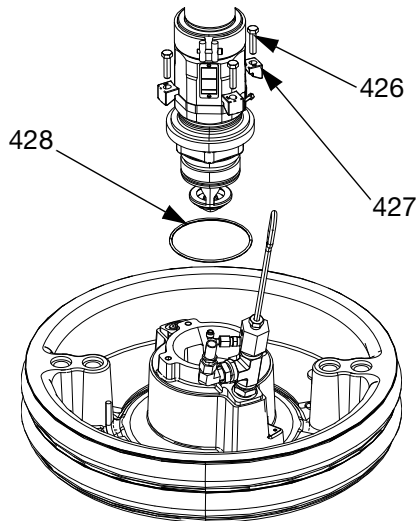

FIG. 36: 55 Gallon Mounting Kit
1. Place o-ring (428) from mounting kit on the Platen (AD). If attached to plate, place Displacement Pump (AC) onto Platen (AD). See FIG. 36.
2. Secure Pump's intake flange to plate with screws (426), washers (425), and clamps (427) included in mounting kit 255392.